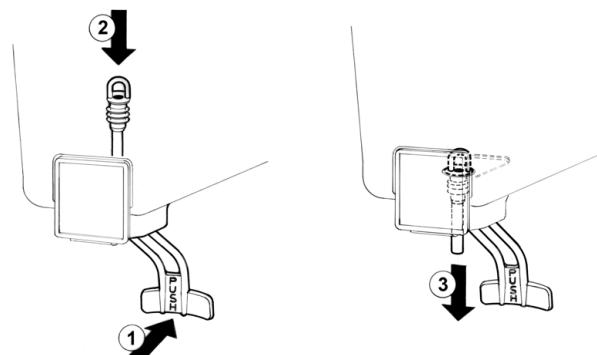

figure 5
2 **Pinch tube faucet:** push the dispensing handle (1) and insert the pinch tube into its vertical seat in the bowl bottom(2). Lightly pull the pinch tube end downwards til it is well arranged (3) (see figure 5).